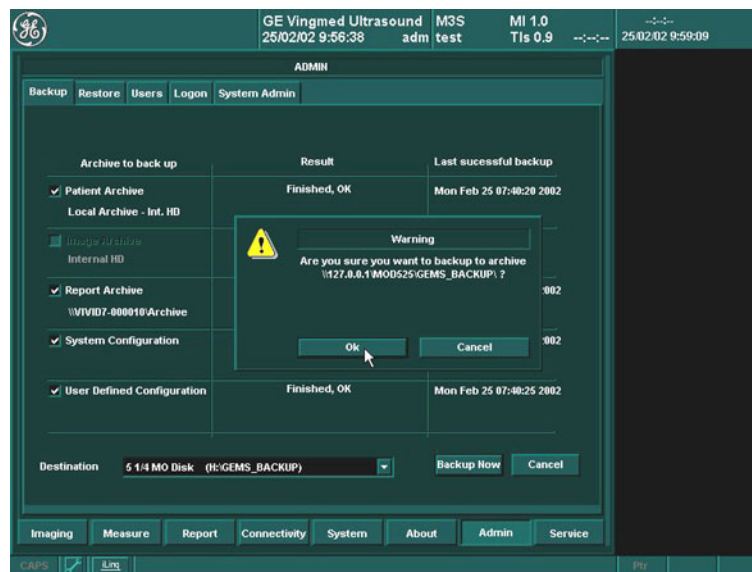

Figure 8-55 Backup Warning
5.) Select **Backup now**. A Warning will appear on the screen, as shown in Figure 8-55 on page 8-62.